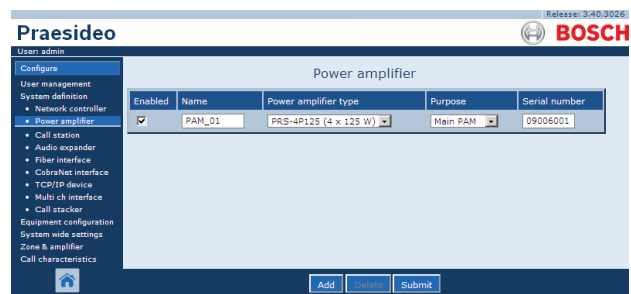

figure 42.11: Delete power amplifier, step 5
- Click the *OK* button to confirm the pop-up message. A screen similar to the one in figure 42.11 appears in the main frame of the web interface. The deleted power amplifier is no longer listed in the table.